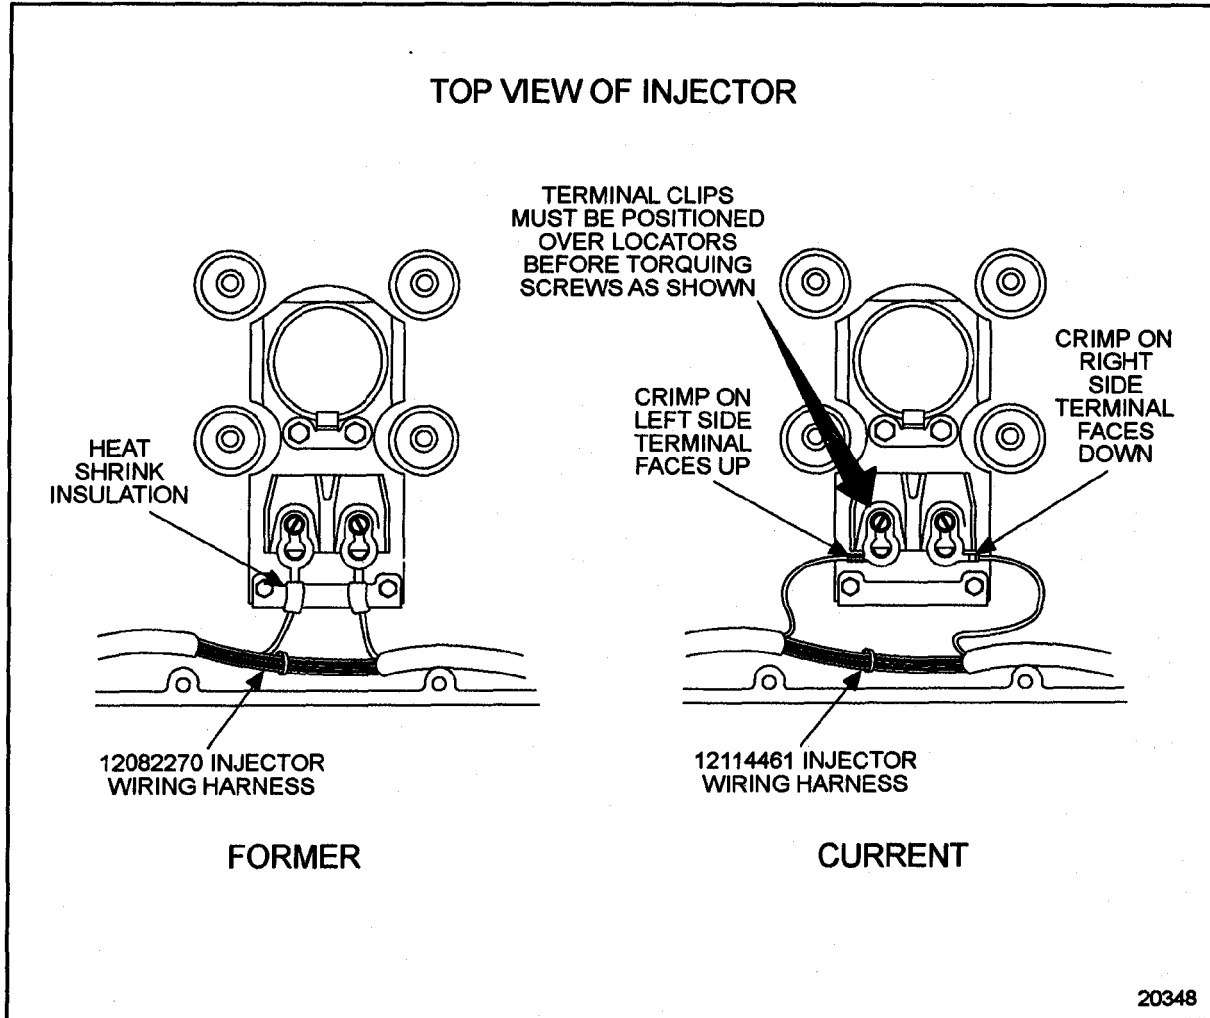

Figure 2-12 Electronic Unit Injector Terminal Installation
12. Install the EUI terminal wires by positioning the keyhole in the terminal over the screw in the injector solenoid housing. Pull the terminal end down so that the screw rests in the smaller slot in the terminal. Torque the terminal screws to 1.08–1.13 N·m (9.5–10.0 lb·in.). Do not bend the terminals down after installation. See Figure 2-12.